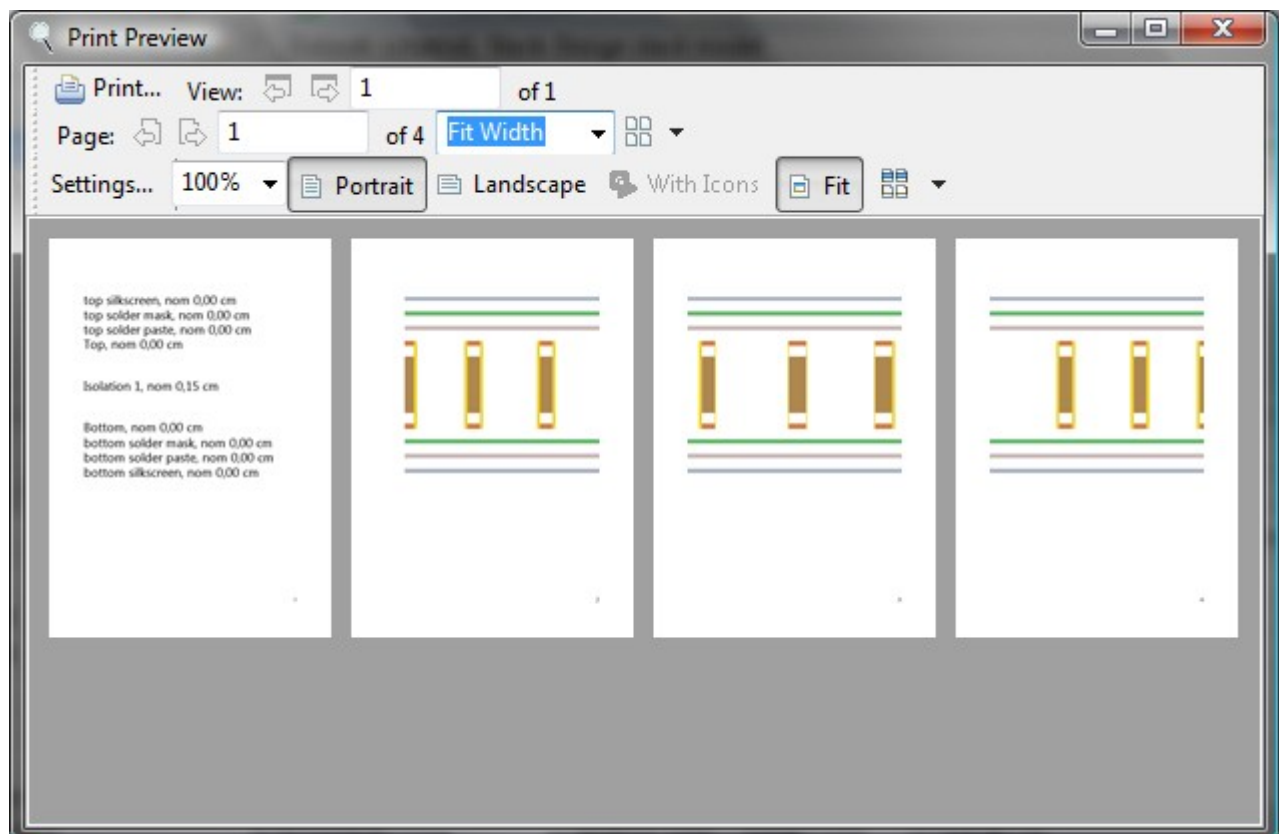

Figure 7. Single drawing is fit to 4 pages
-  **Draw On Multiple Pages** button - select a combination of pages the drawing of the selected view to be drawn on. This is useful, if there is a need to print a single drawing on multiple pages. The combination of the pages should be selected according the particular drawing size (if it is wide or tall). If the selected number of pages is too large, the "unused" pages are shown blank. You can switch on both buttons  **Fit to page** and  **Draw on Multiple Pages** - the drawing will be fit to all pages (see Figure 7).